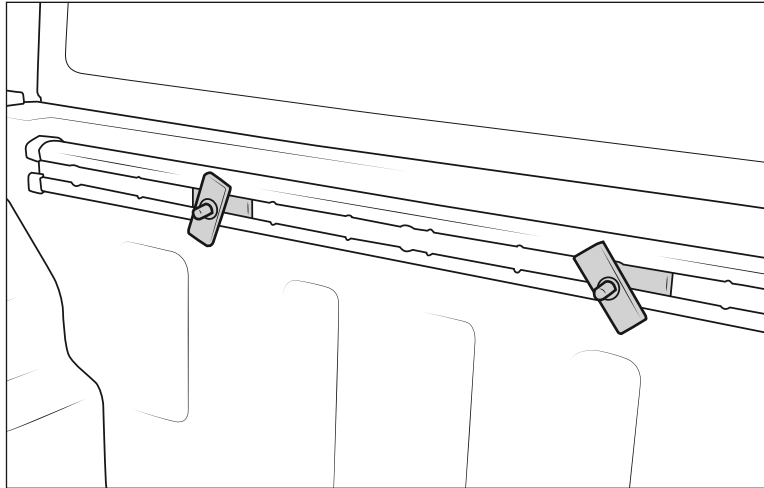

Figure 3
4. Slide backer plate assemblies into the track then install a second backer plate and retaining washer on each bolt (fig. 3).